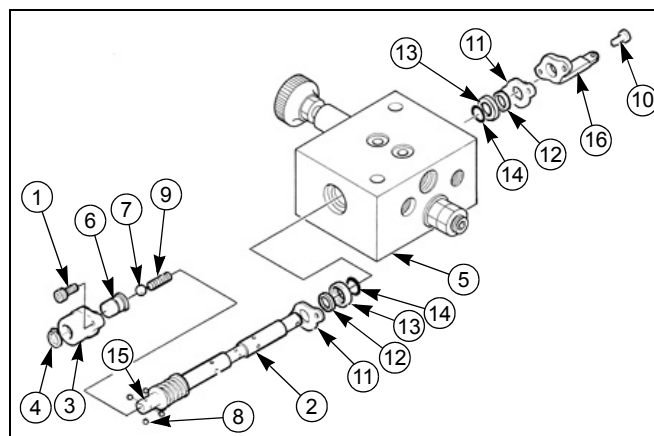

Figure 6-6
Reference – Figure 6-6
- b. Install the snap ring ① with the rounded edge facing the cap.
- c. Tighten the sealing plate bolts ⑩ to 4 ft-lbs. (5.5 Nm) and check the spool for smooth operation, Figure 6-6.